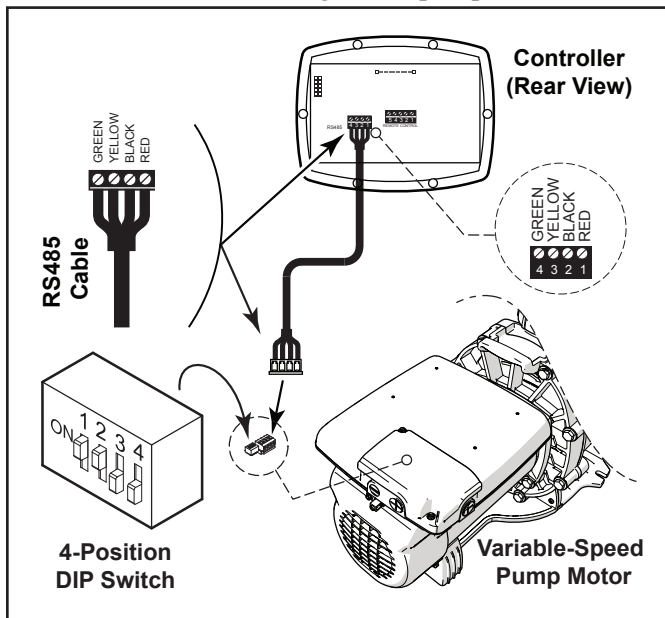

Figure 4. Wiring the Controller to the Variable Speed Pump
- Attach the four (4) wires in the RS-485 cable to the RS-485 connector. Make sure the colors match the positions on the connector. See "Figure 4. Wiring the Controller to the Variable Speed Pump"
- Set the DIP switch settings for the pump controller with the 1 and 2 in the ON position and 3 and 4 in the OFF position. See "Figure 4. Wiring the Controller to the Variable Speed Pump".
For the ePump™, the VS-FHP2.0 pump and the VSPHP27, the 4-position or 5-position dip switch is located at the rear of the pump, as shown in "Figure 4. Wiring the Controller to the Variable Speed Pump"